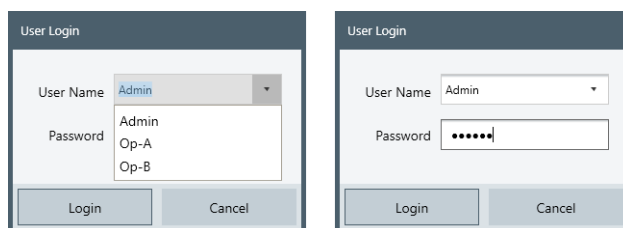

Figure 3-2: User login dialog
- The drop-down list (left in Figure 3-2) contains only names of users that have already logged in during a previous session. If your user name is missing in the list, typically during your 1st login, you must type it in.